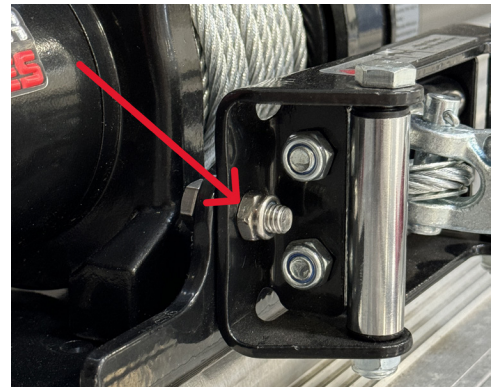

Figure 1. Fairlead mount
Step 1. Attach the fairlead to the black mounting plate. See figure 1.